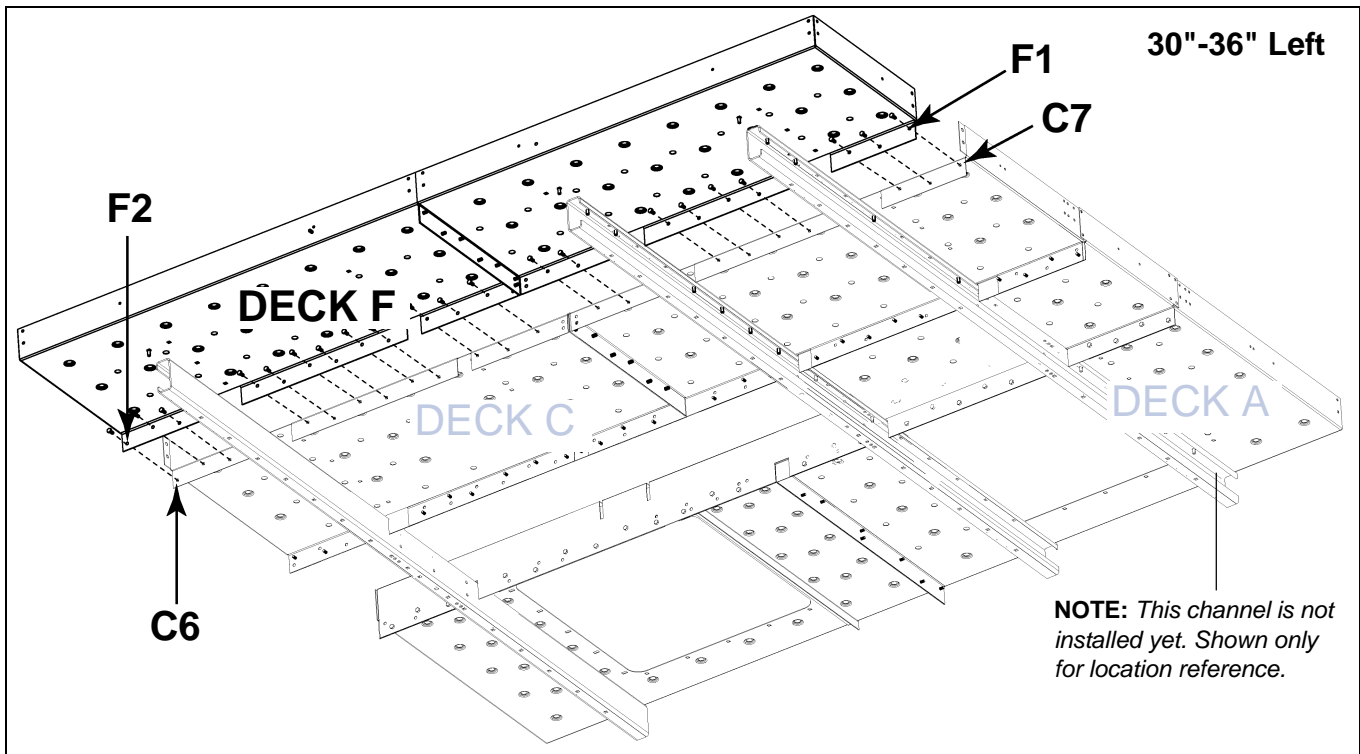

Figure 9M Deck F to Deck C
5. Orient Deck F flange outside of Deck C flange. (See Figure 9M on Page 78.)